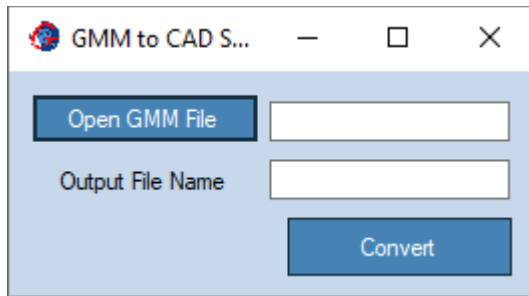

Figure 17: *Geo Meshing v4.3* to CAD script surface dialog window.
- **GM to CAD Script:** Opens a dialog window (shown in Figure 17) for converting *Geo Meshing v4.3* meshes to a CAD script surface. The script can be drag/dropped into CAD software and it will create a 3Dface surface.